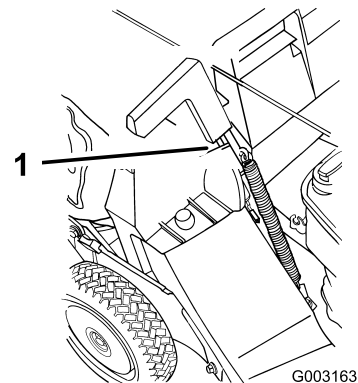

Figure 23
5. Pull the discharge door handle forward until the pin clears the catch, and move the handle rearward until the pin locks in the bag notch (Figure 23).